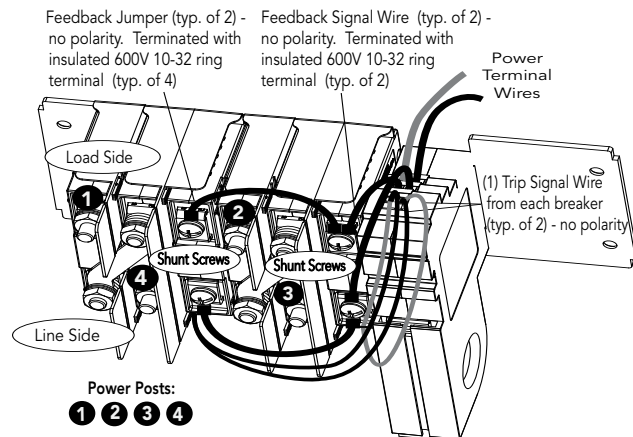

Figure 6. Pre-Wired GFPD-600V / Breaker Assembly
The GFPD-600V and breakers are assembled at the factory. Feedback jumper, shunt and trip signal leads are pre-wired to the GFPD-600V terminals - See Figure 6. The GFPD-600V external voltage source connections are described in the next section - Completing Wiring.
3.2.2 Completing Wiring - See Figures 6, 7 and 8
Step 2. Crimp the included ring terminals on the ends of the (+) and (-) solar<->breaker conductors, and attach solar array (+) wire to post (2) (load side), and solar array (-) wire to post (4) (line side) using the supplied hardware (see Figure 6).
Step 3. Crimp the included ring terminals on the breaker side ends of the (+) and (-) breaker<->controller wires. Attach breaker side (+) wire to post (3) (line side) and breaker side (-) wire to post (1) (load side) using the supplied hardware (see Figure 6).